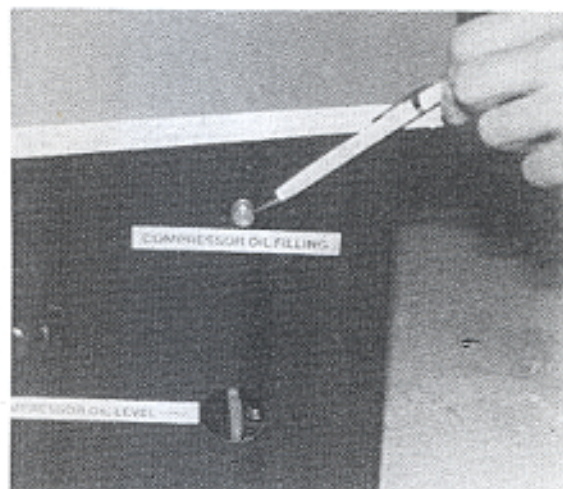

Fig.4
- If the compressor oil level is too low, compressor oil must be supplied on the charging stub (fig 4) until the correct level has been obtained.